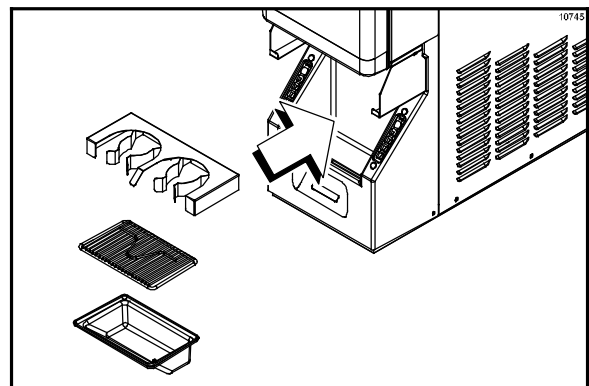

Figure 34
14. Reinstall the cup holder, the drip tray and the splash shield. (See Figure 34.)